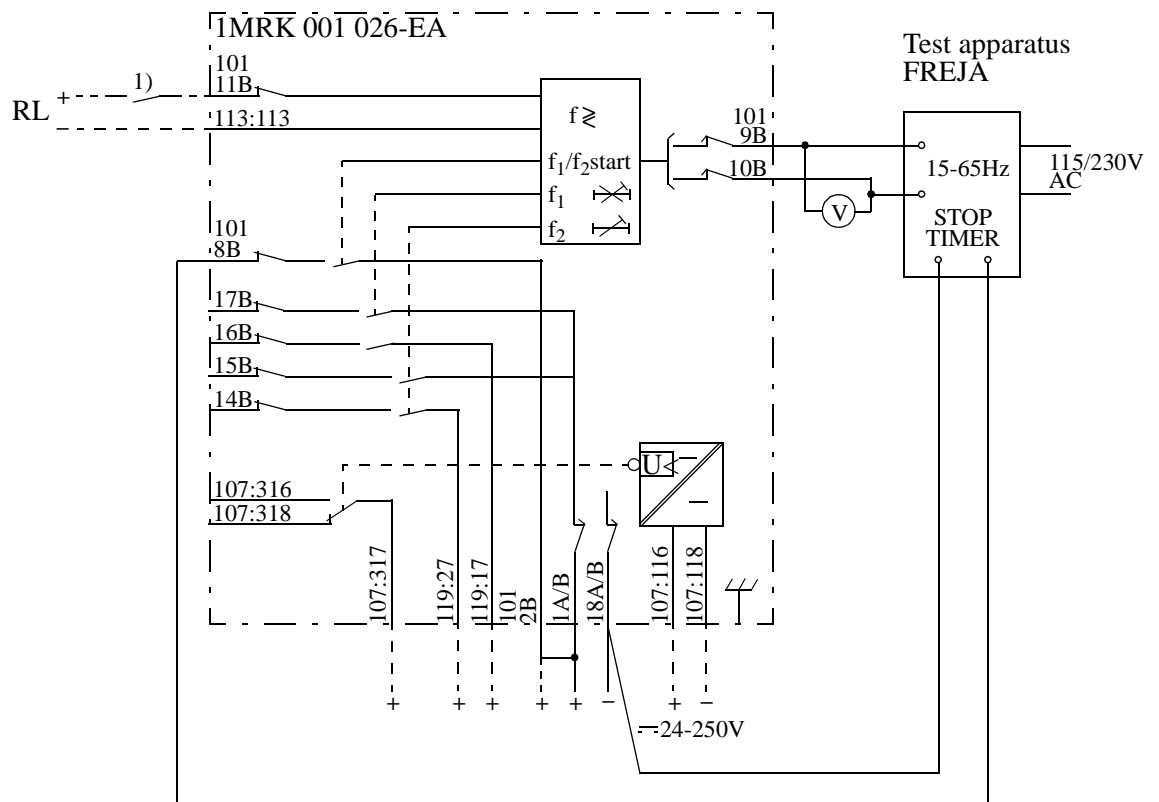

Fig. 14 Connection of test apparatus to RAFK 1.
Fig. 14 shows as an example the connection of test set FREJA for secondary testing of the two-stage frequency protection RAFK 1, Connection Diagram 1MRK 001 026-EAA. When testing, even the actual circuit diagram of the protection, which shows the internal connections, should be available.
1. Insert the test-plug into the test switch. Connect the test set and the voltmeter according to Fig.14. Auxiliary voltage shall be connected to terminals 101:1A and 101:2A. Interconnect terminals 1 and 2 on the test handle to get output voltage to test terminal 8 when the start function output relay for f1 or f2 operates.